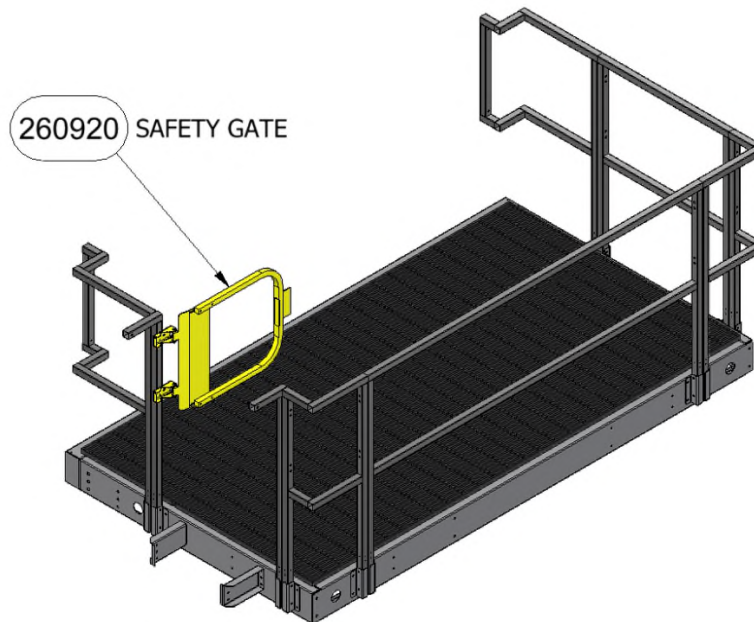

Figure 34. Ladder Opening Safety Gate Location
1. Align safety gate hinge to specified location in **Figure 34**.